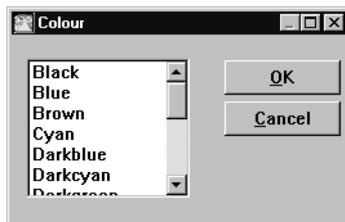

Fig. 30 The colour dialogue box.
- 2 A list box is shown, see Fig. 30. A colour is selected by double-clicking on the colour in the list, or press **OK**.